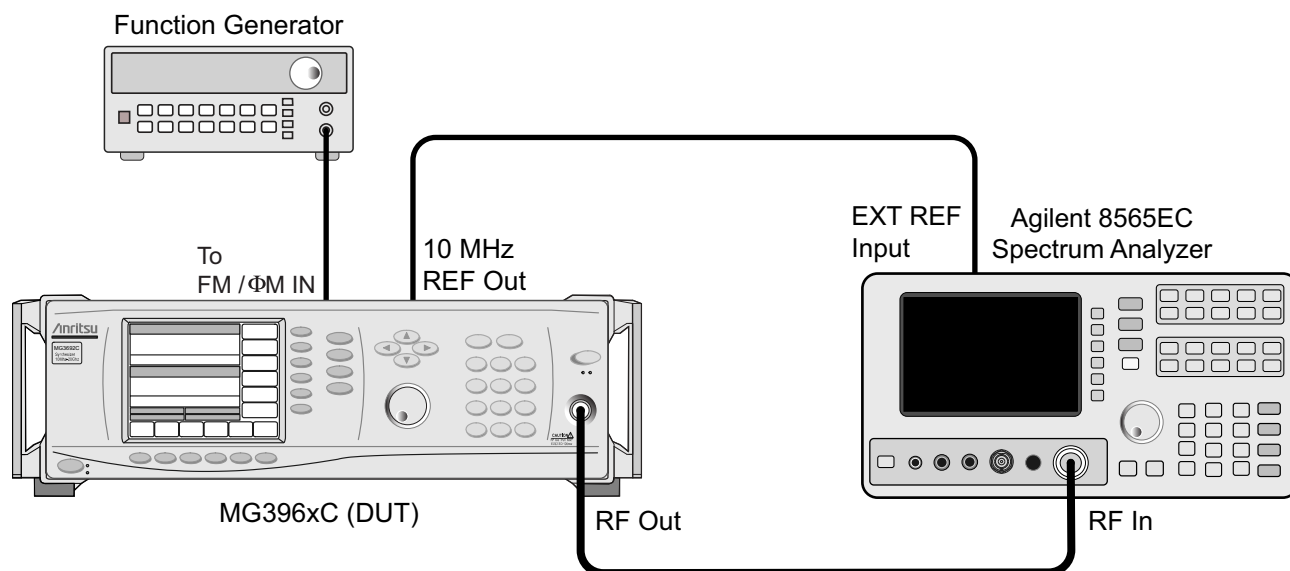

Figure 4-11. Equipment Setup for Frequency Modulation Tests
Connect the equipment, shown in Figure 4-11, as follows:
1. Set up the test equipment as shown in Figure 4-11.